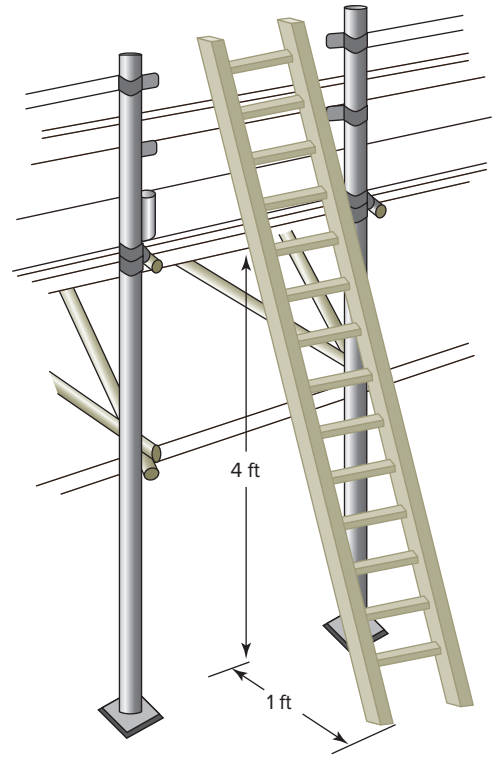

Figure 1-10 Ladder 4-to-1 placement rule.
- Always place a straight ladder at the proper angle; straight ladders should be placed at a **4-to-1** ratio. This means the base of the ladder should be 1 foot away from the wall or other vertical surface for every 4 feet of height to the point of support, as illustrated in Figure 1-10. When a person has to step off the ladder, it should extend about 3 feet above the roof, scaffold, or other kind of raised platform.